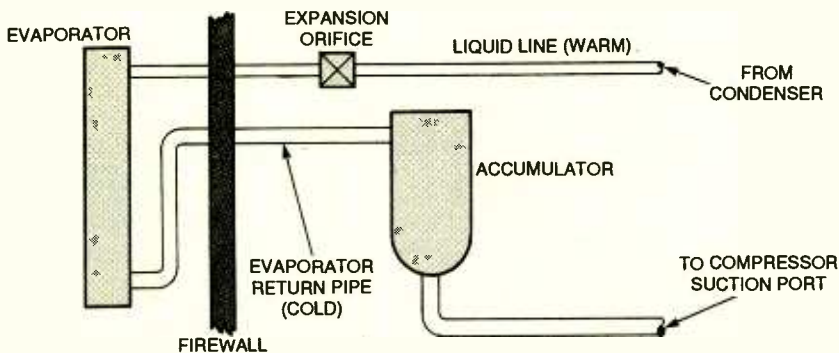

Fig. 6. The monitor's printed-circuit board should be mounted near the evaporator-return pipe, next to the firewall of the vehicle.
**Installation.** Refer to Fig. 6. Locate the circuit board near the evaporator return pipe, next to the firewall of the vehicle. Secure the board so that no part of it can short out to any metal part of the vehicle. The 12-volt connection to the circuit board is made to the hot lead of the air-conditioner clutch coil. The ground return may be made to any metal part of the vehicle chassis. If you cannot identify the hot lead of the air-conditioner clutch, operate the air conditioner and use a DC voltmeter to determine the correct wire.